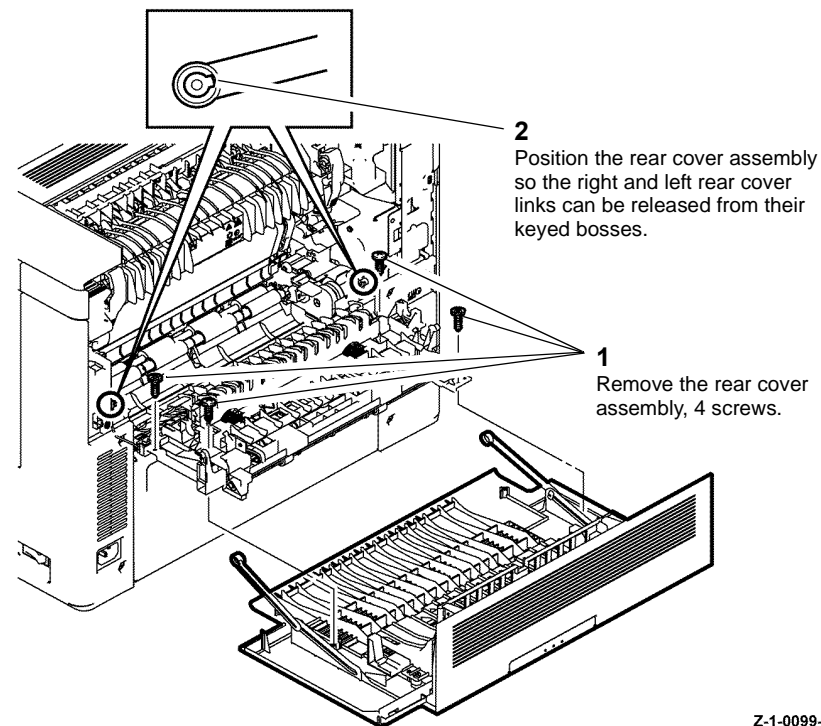

Figure 1 Rear cover assembly C405
2. Remove the rear cover assembly, Figure 1.